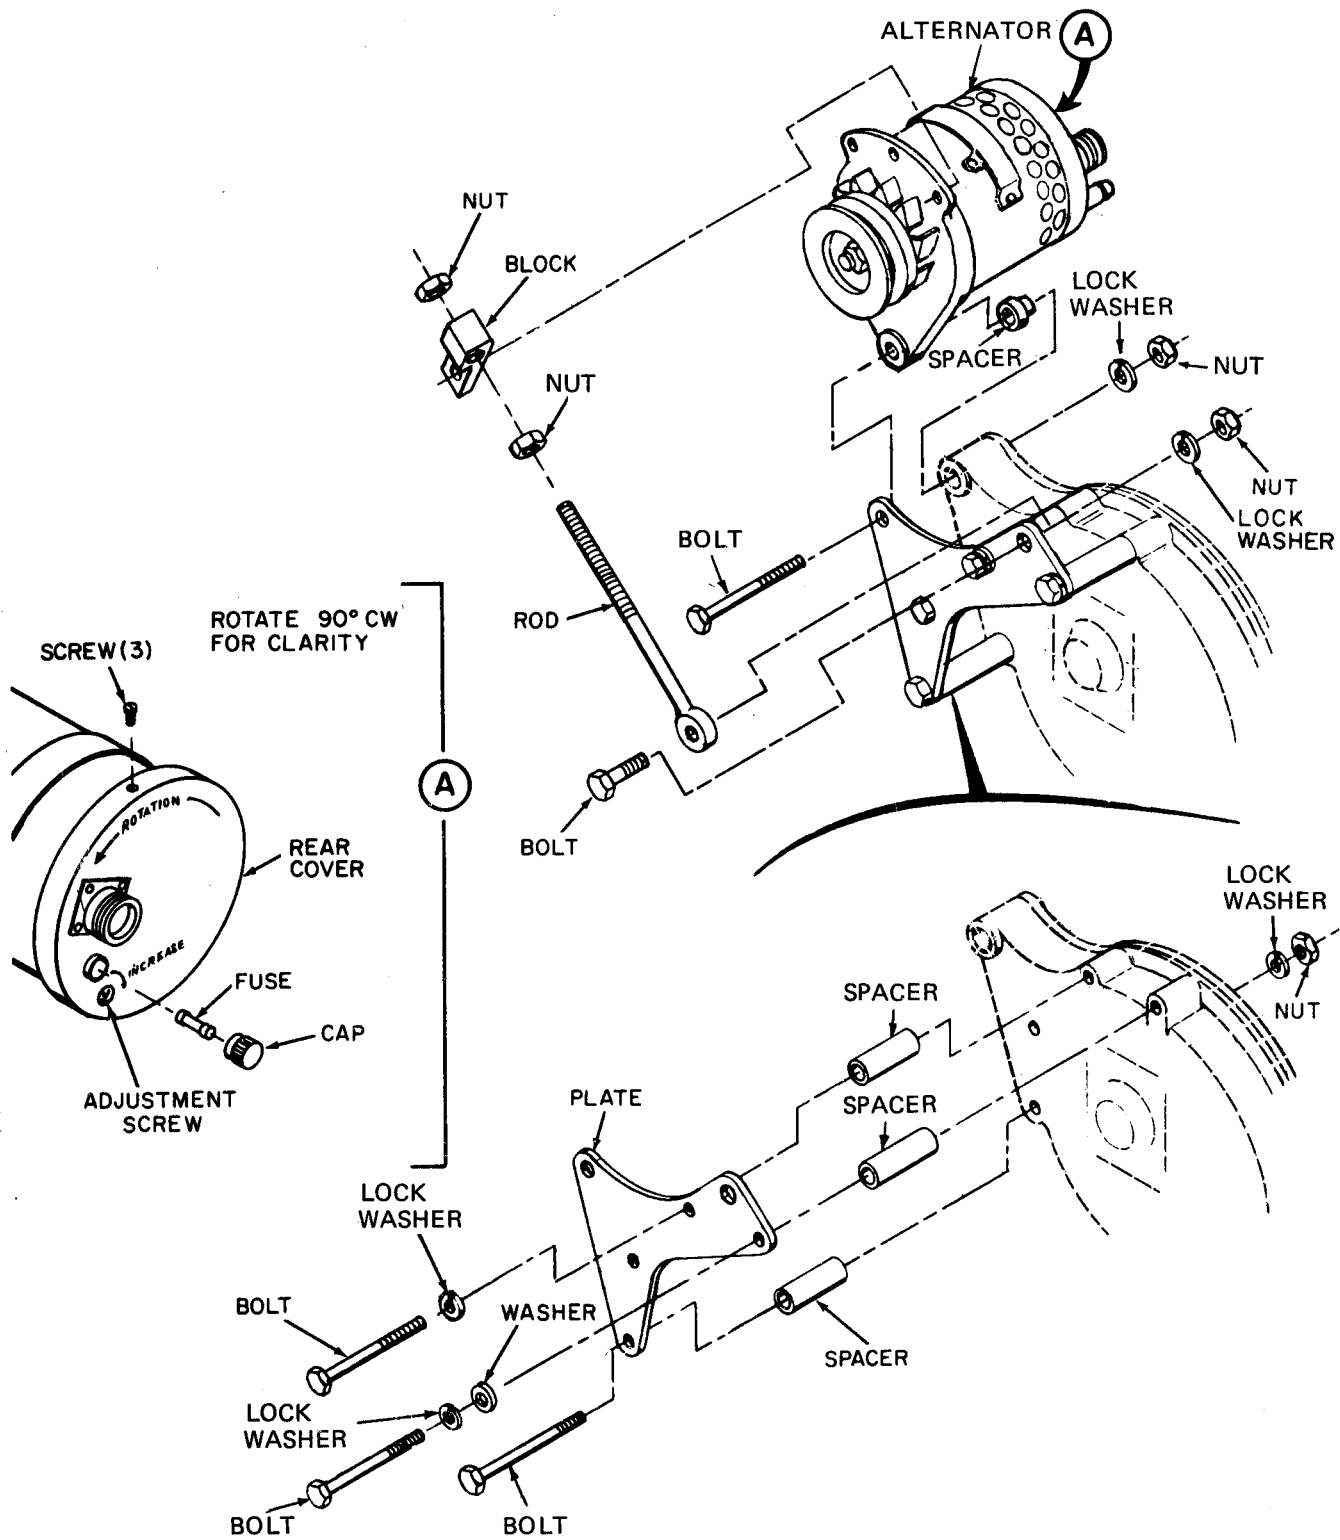

Figure 3-27. Battery charging alternator and mounting group, removal and installation
b. ALTERNATOR FUSE REPLACEMENT. Replace alternator fuse as illustrated in detail A of figure 3-27.
1. Remove fuse and disconnect rear cover from alternator as illustrated in detail A of figure 3-27. Do not remove harness connector. Position rear cover (wiring connected) so that test equipment can be connected to alternator terminals. Insulate wiring to prevent short circuit.
d. REMOVAL. Remove alternator and mounting group as illustrated in figure 3-27, observing the following:
f. INSTALLATION. Install alternator and mounting group as illustrated in figure 3-27, observing the following: